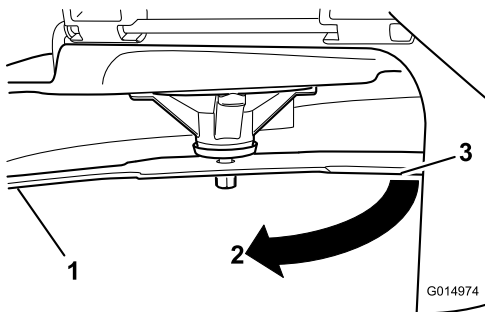

Figure 52
3. Second measured distance between blade and surface (B)
4. Rotate the same blade 180 degrees so that the opposing cutting edge is now in the same position (Figure 52).